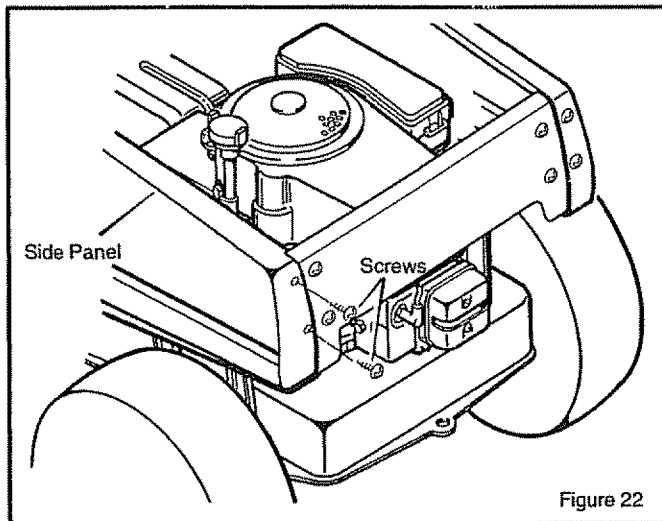

Figure 22
1. Remove the **screws** that hold the back of the **side panel** (Figure 22).